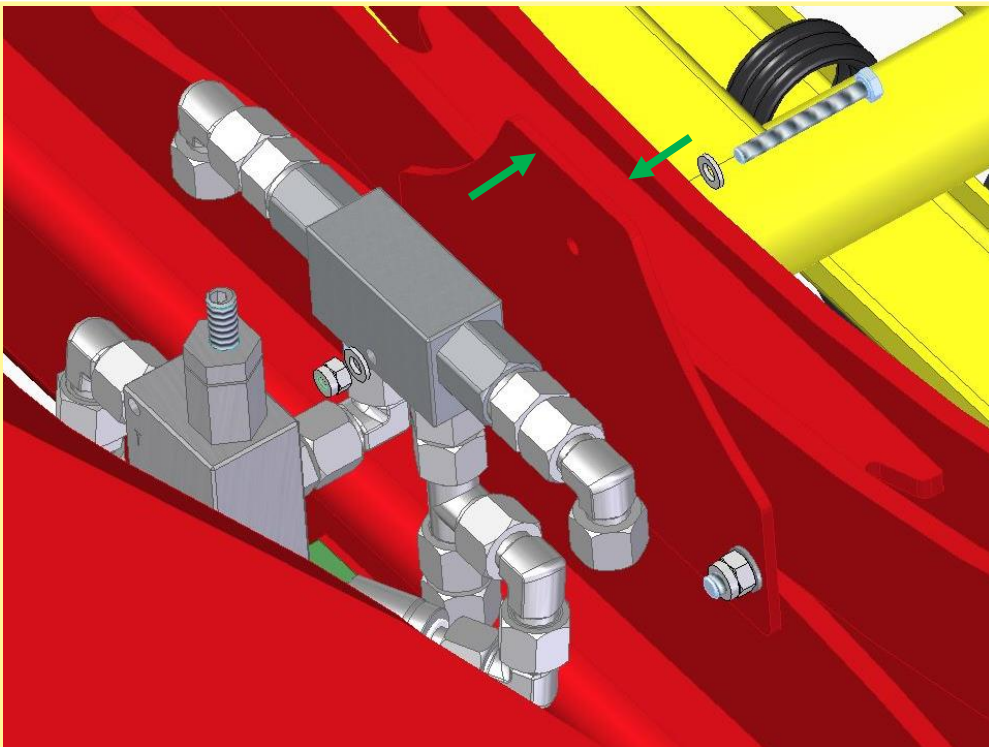

Figure 2: Installation of the PRV locking block unit
- 2) Then the PRV locking block mount is installed on the base plate with 2 flat washers M6, 1 locking nut M6 and a hexagonal bolt M6x50 (Figure 2).